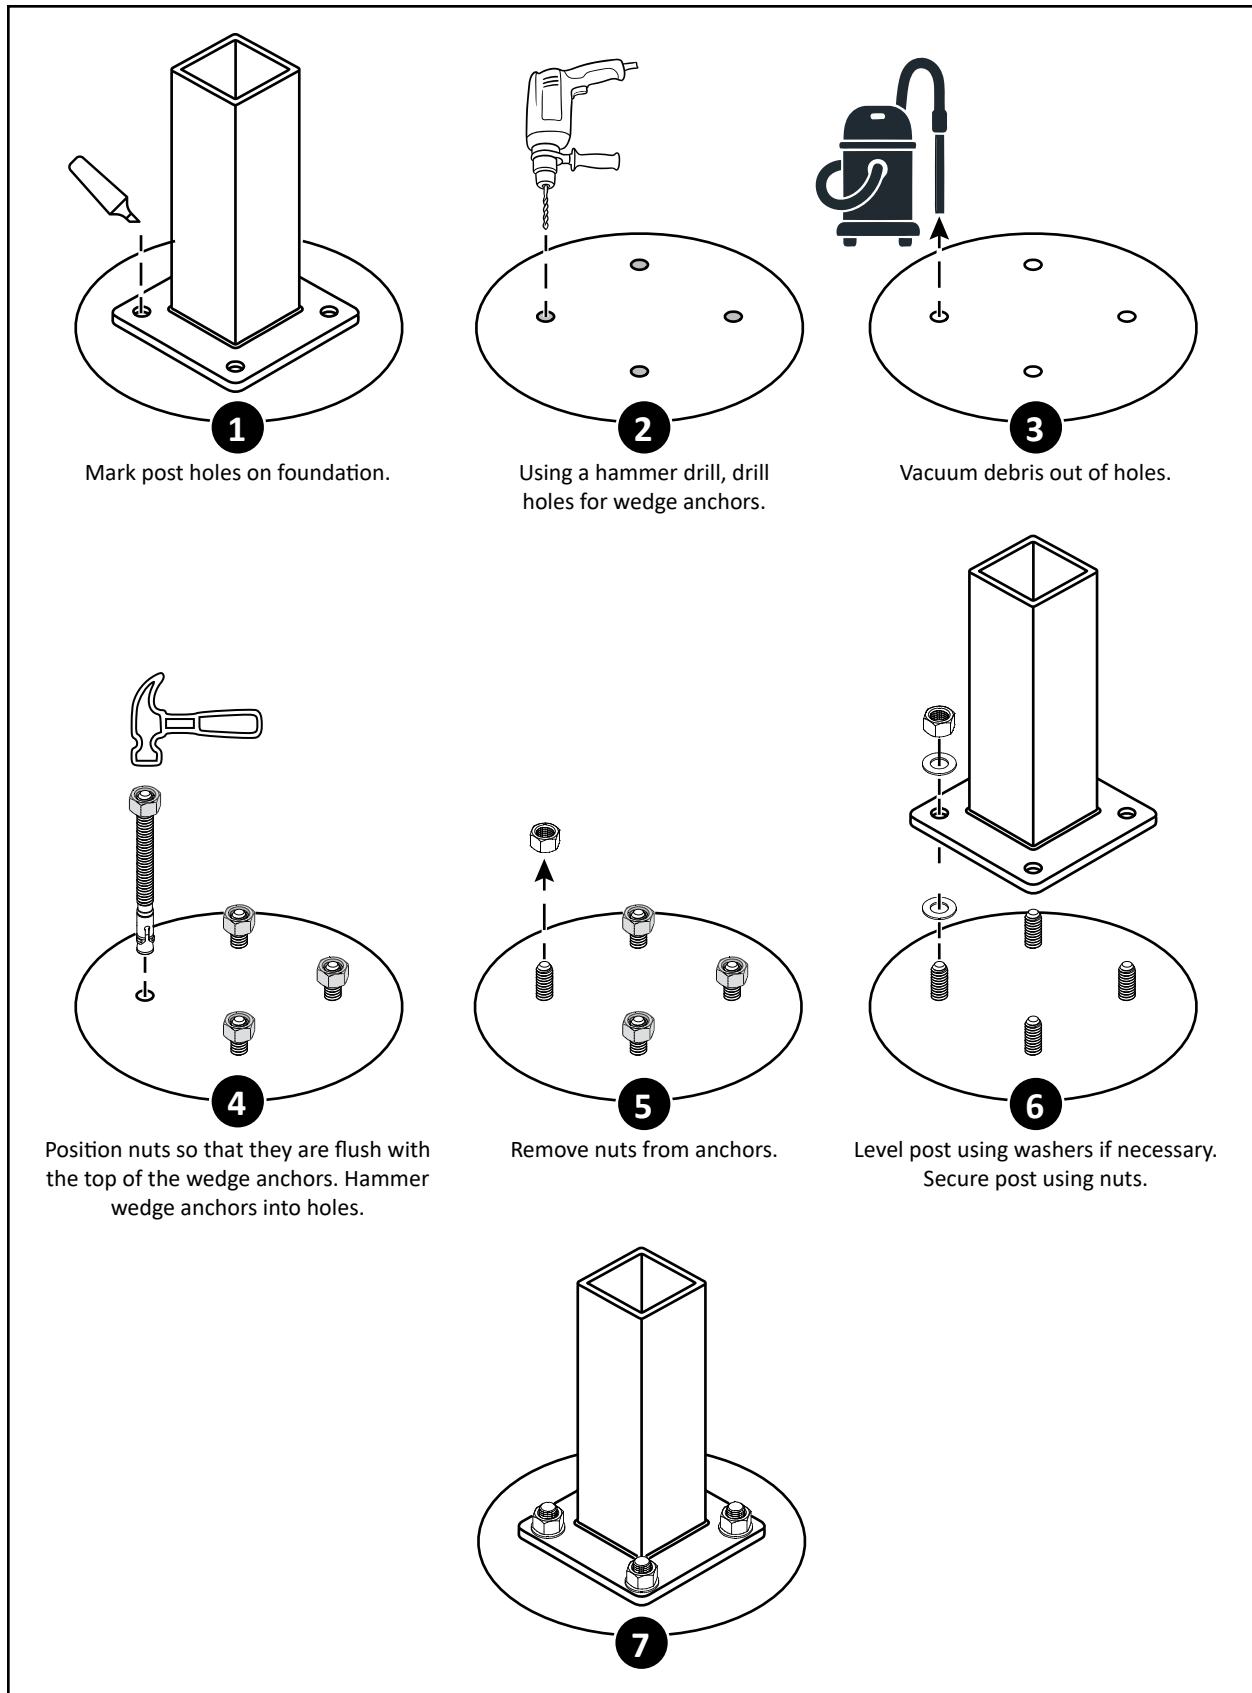

Figure 4: Flange post installation with wedge anchors
- If using wedge anchors: **Figure 4 on page 13**